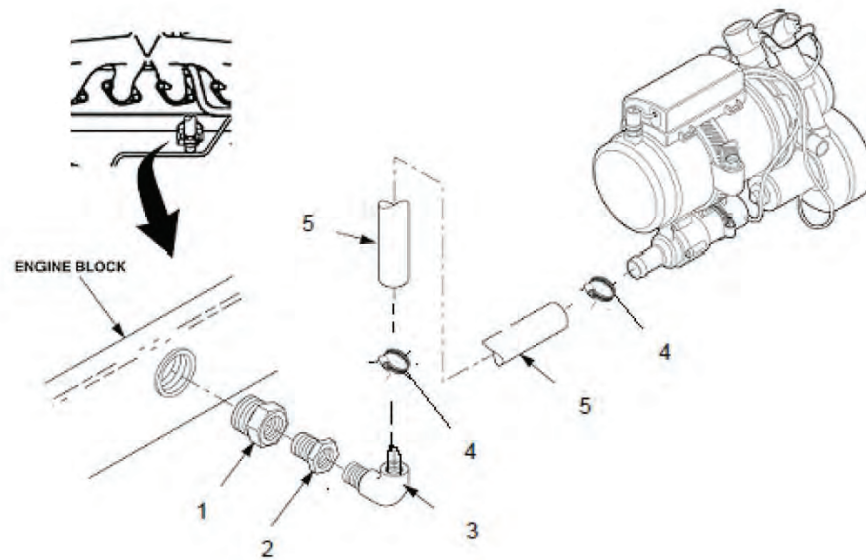

Figure 3. Coolant Inlet Hose Assembly.
- a. Remove plug from rear of engine head (refer to engine TM 9-2815-255-24) and install adapter (Figure 3, Item 1), bushing (2), and elbow (3).
- b. Install coolant hose (5) to elbow (3) and secure with clamp (4).
- c. Install the other end of coolant hose (5) to heater coolant intake using clamp (4).